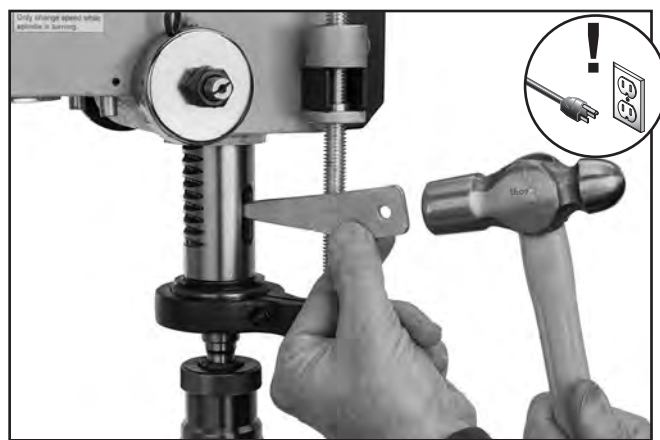

Figure 27. Using drift key to remove arbor from spindle.
7. Tap drift key with a metal hammer (see **Figure 27**) until chuck releases.